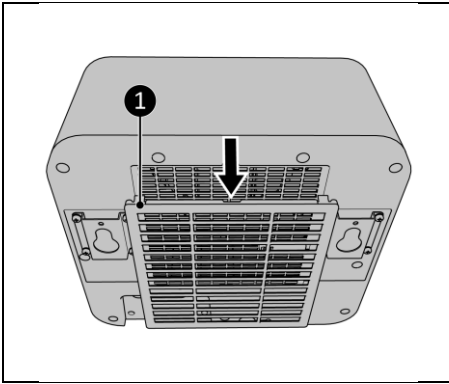
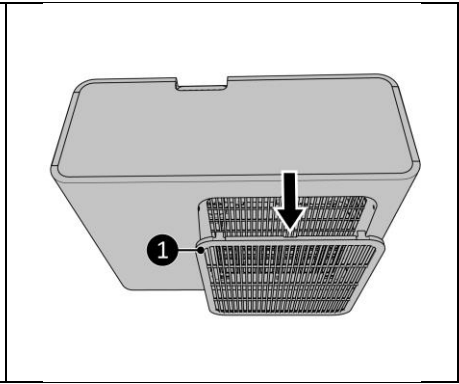

Figure 20
Figure 21
2. Remove the frame (Figure 20, pos. 1 for the indoor unit and Figure 21, pos. 1 for the outdoor unit) and remove the filter.